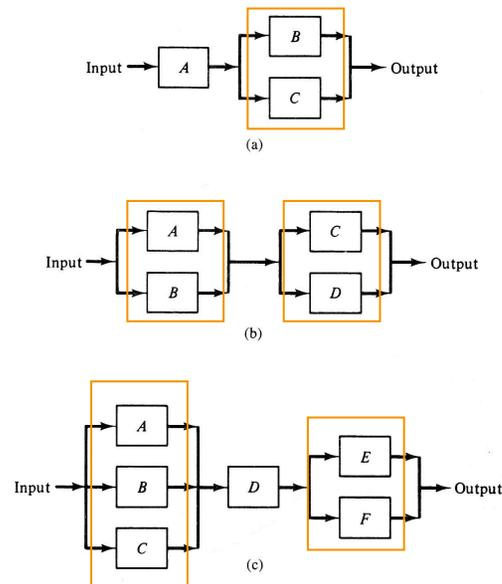

Figure 12.10 Some combined series-parallel networks.
- Figure 12.10- Reduce parallel blocks to equivalent series element.